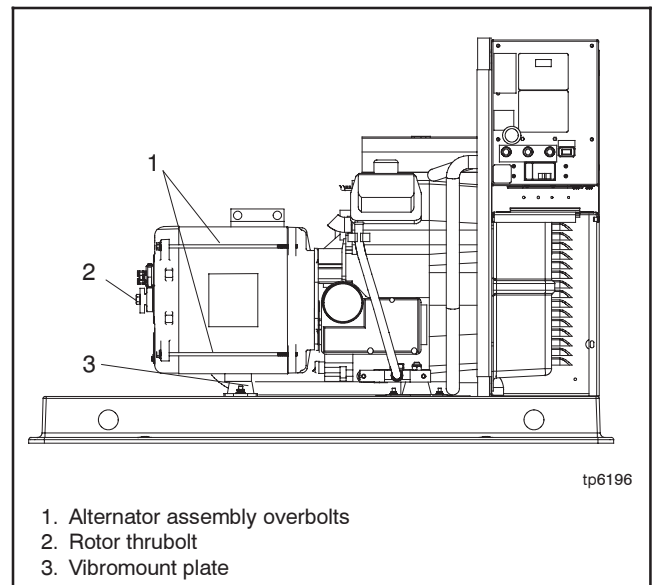

Figure 7-16 Generator Set, Right Side (typical)
- b. Lower the end of the generator set and reinstall the screws and washers that secure the vibromount mounting plate to the generator set skid. See Figure 7-16.
5. Tighten the hardware to the following torques. See Figure 7-16.